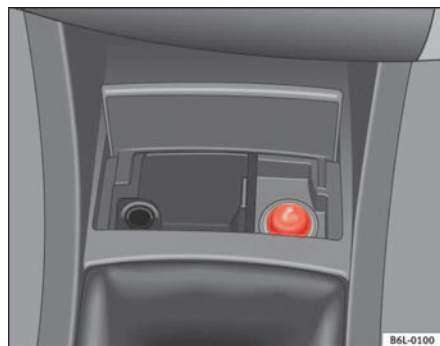

Fig. 81 Cigarette lighter
- Press on the cigarette lighter ⇒ fig. 81 to activate it ⇒ .